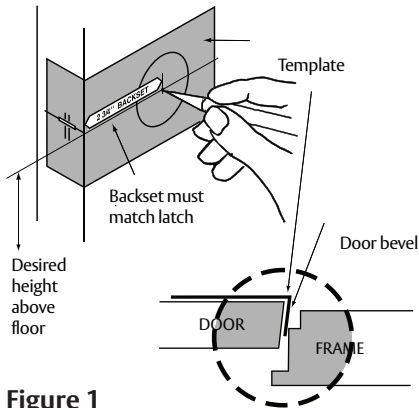

Figure 1
1. Use template FM567 to mark the door. See Figure 1.